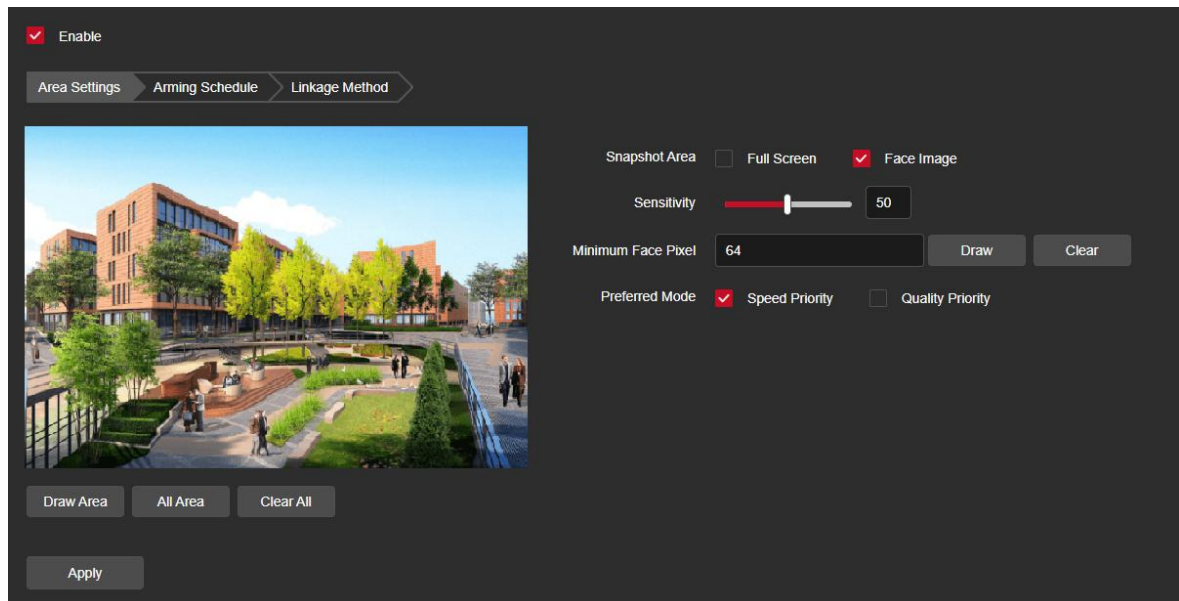

Figure 8-6-39
Step 1: In the main interface click on the "Configuration → Event → Smart Event → Face Detection" to enter the Face Detection settings interface, as shown in Figure 8-6-39.